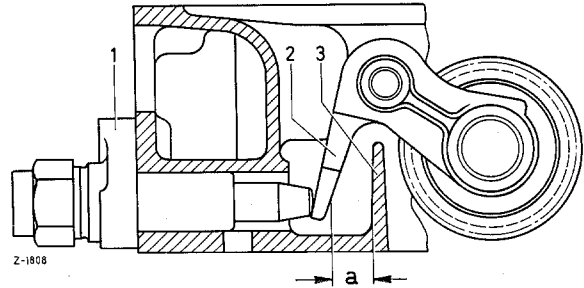

Figure 05-27/1
A chain should be changed when the reserve distance that is, the distance "a" between the lever (2) of the idler sprocket support and the web (3) is less than 2 mm (Fig. 05-27/1). Use gauge, part No. 111 589 11 21 00, for timing chain as follows: